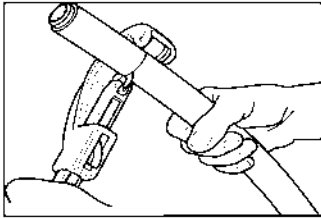

Figure: 4-49
- Using the appropriate tubing cutter with **TracPipe**® #FGP-E-5272 cutting wheel, score the black sleeve approximately half of the way through. Figure: 4-49. Use extreme care not to cut or score the stainless corrugated pipe! Typically, no more than two turns in on the cutter is sufficient.